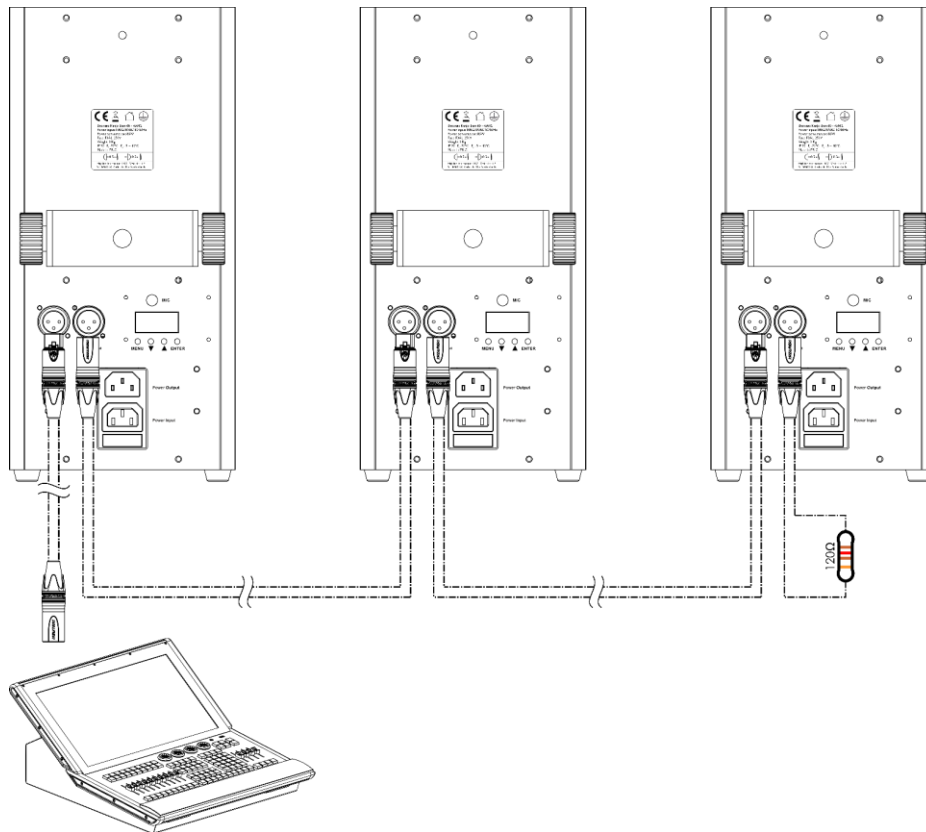

Fig. 11
- 03) Repeat step 2 to connect all devices in a daisy-chain as shown in Fig. 11.